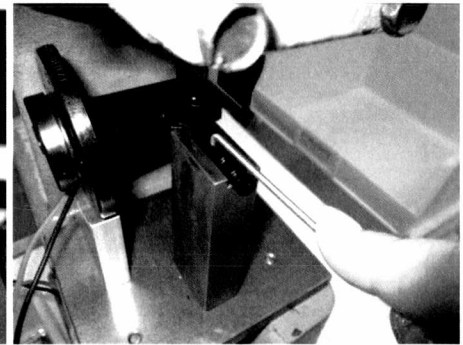

Figure 16.
- 15.) Take one float s/a. Insert the free end of the wire into the hole on the pivot arm, making sure the float s/a remains perpendicular to the work surface (Figure 16).